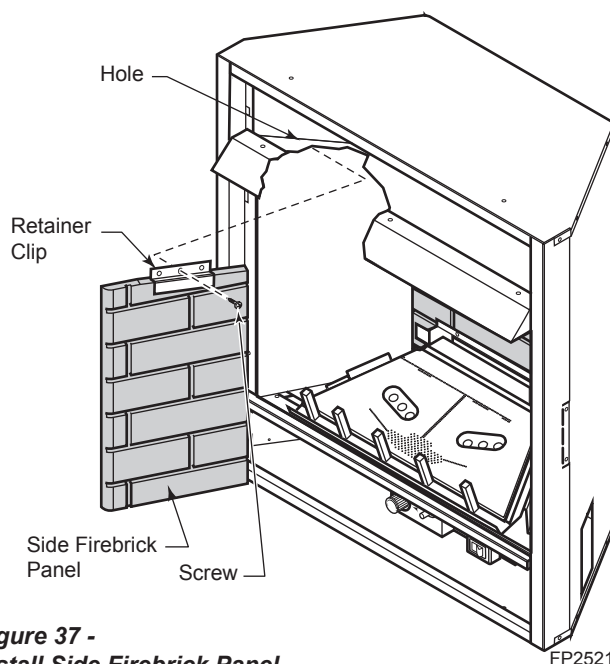

Figure 37 -
5. Place one of the side firebrick panels in cabinet. Line up the hole in the retainer clip with the hole inside the firebox. Using Phillips screwdriver, attach the retainer bracket to inside of firebox. *Figure 37*